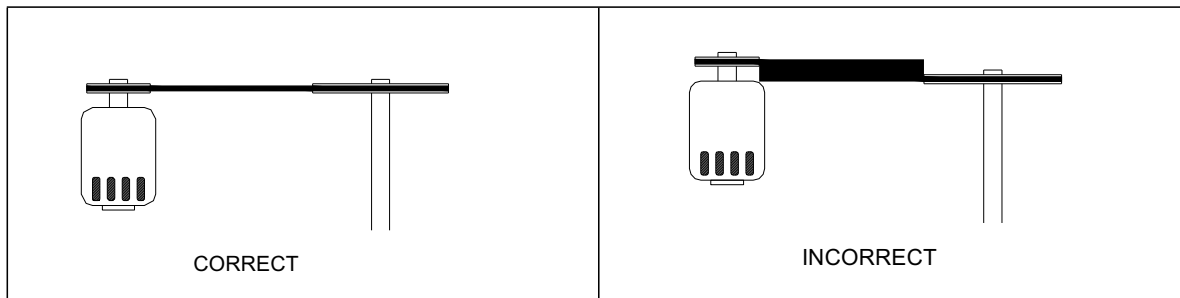

Fig.2
- Figure 2, illustrated below, shows proper pulley alignment. Pulley alignment is adjusted by loosening the motor pulley or driven pulley set screws and moving the pulley on the shaft. A straight edge should be used when aligning pulleys.